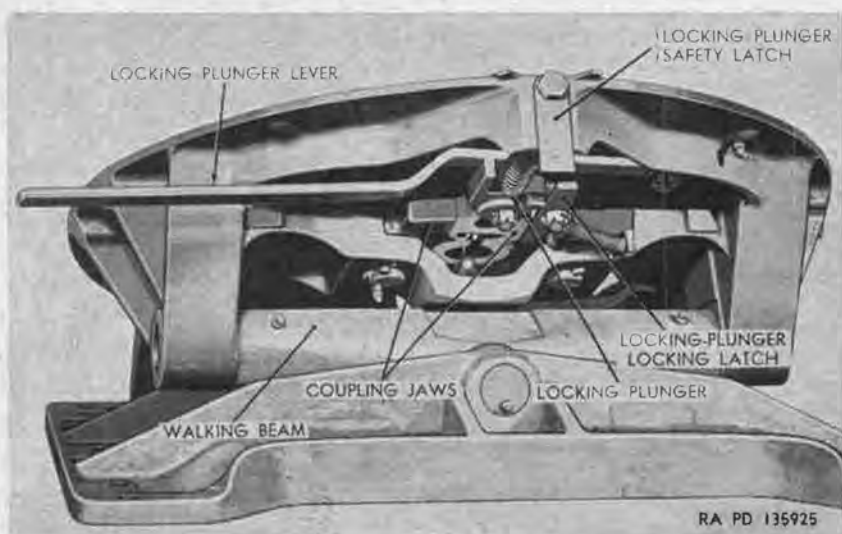

Figure 98. Fifth wheel assembly removed from vehicle—front view.
wheel (fig. 98) to a walking beam which in turn is pivoted to the sub-base. This construction permits movement of the fifth wheel in all planes.
(1) Coupling.
- (a) Swing the locking plunger safety latch (fig. 98) aside and push the locking plunger lever toward the front of the truck until the locking plunger locking latch drops into position so that the lever remains locked in the forward position. This operation sets the coupling jaws for coupling.
slides into the V-shaped opening at the rear of the fifth wheel. Continue to back the truck until the movement of the kingpin causes the left coupling jaw to release the locking plunger locking latch, thereby causing the locking plunger to lock the coupling jaws about the kingpin. The locking plunger safety latch should fall to the position shown in figure 98.